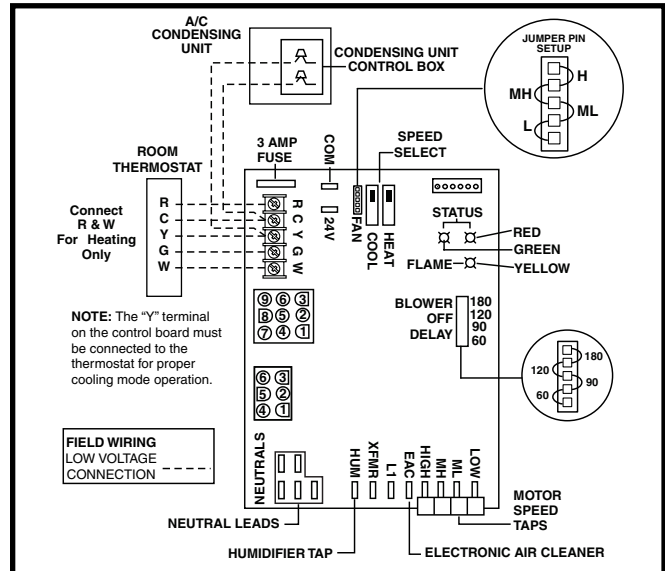

Figure 26. Low Voltage Field, Four-wire Heating/Cooling Applications
- The thermostat must be installed according to the instructions supplied by the thermostat manufacturer. Low voltage connections (24 VAC) from the thermostat are wired to the terminal strip on the integrated control in the furnace. Figure 26 contains the proper connections for heating only (two-wire) and heating/cooling (four-wire) applications. Recommended minimum wire gauge for thermostat wiring is shown in Table 5 \(page 23\).
- ✓ Verify the jumper setting (for fan speed) on the control board. To select fan speed, see Figure 26 and set the jumper on the control board.